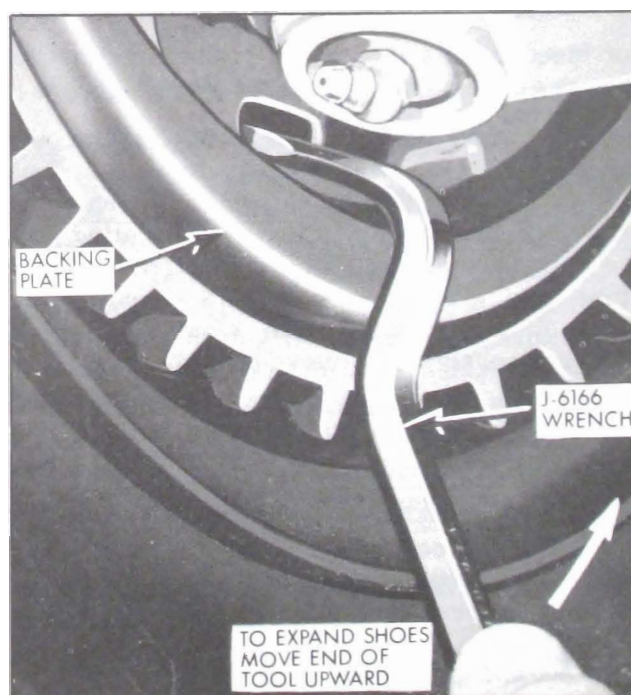

Figure 9-8—Expanding Brake Shoes
1. Remove adjusting hole covers from brake backing plates. Using suitable tool to turn brake adjusting screw, expand brake shoes at each wheel until the wheel can just be turned by hand. Moving end of tool in hand upward expands the shoes. See Figure 9-8. The drag should be equal at all wheels.